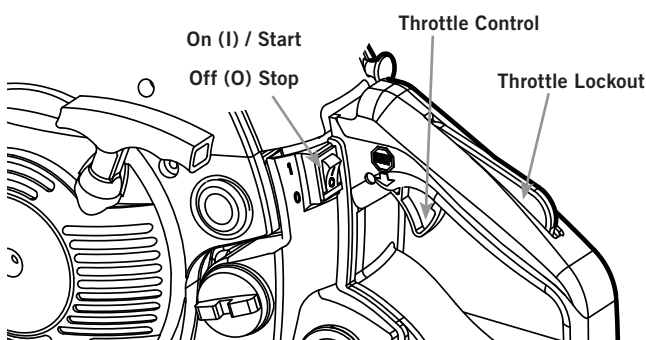

Fig. 3
5. Move the On/Off switch to the On position (Fig. 3).
8. DO NOT touch the throttle control (Fig. 3). Set the unit on a flat, level surface. Clear the area of any objects that could contact the saw chain.
DO NOT touch the throttle control until step 14 (Fig. 3)
2. Move the On/Off switch to the Off position (Fig. 3). Wait for the saw chain to come to a complete stop.